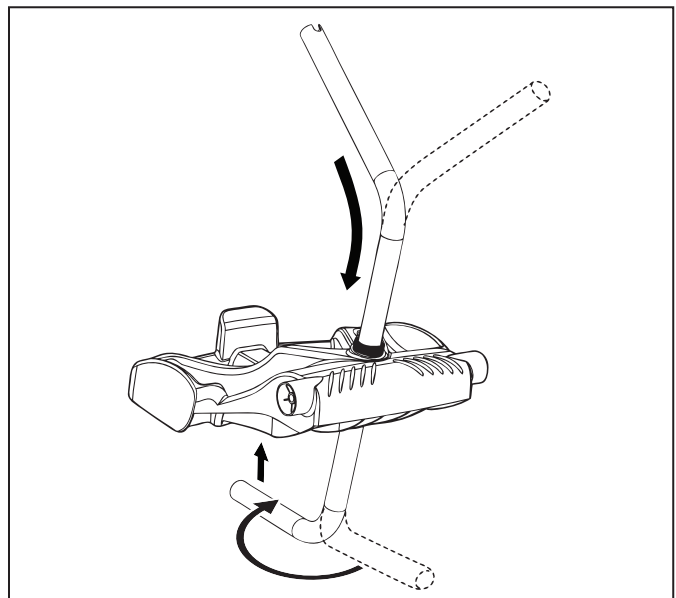

Figure 3. Connect Metal Frame to Base Unit
2. Insert the metal handle frame tubing into the base with notch end at the top, then rotate so the bends are away from you (Figure 3).
3. Push base down (Figure 3) so the metal handle frame is seated in the recess on the underside of the base.